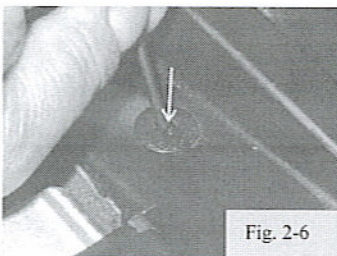

Fig. 2-6
- (2) Push center of push pin fasteners to release. Push in one click to release. Do not push pin too far. (Fig. 2-6)